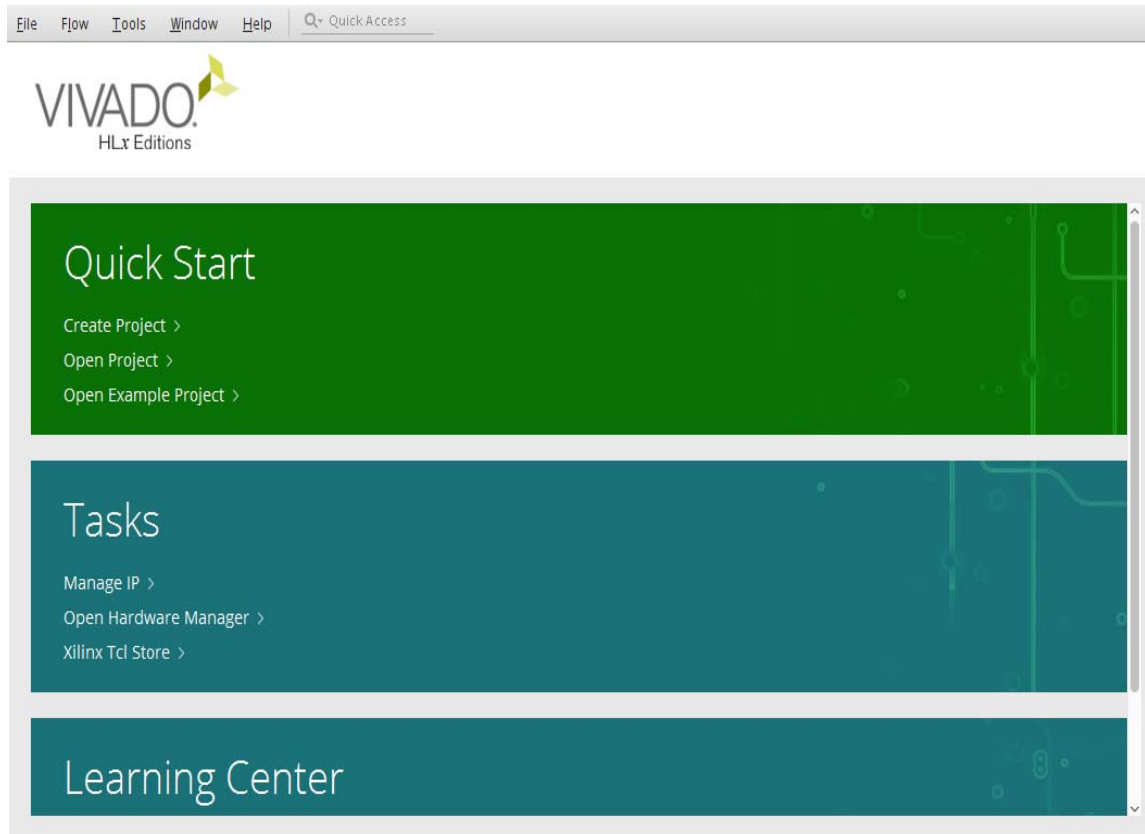

Figure 9-3: Create a Vivado Project
2. From the Welcome screen, click **Create Project** (Figure 9-3).